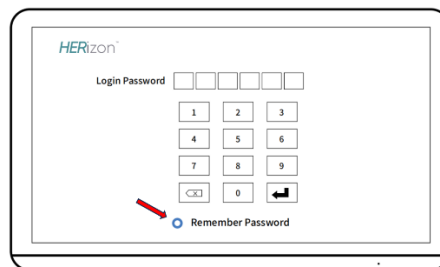

FIGURE 9: PASSWORD SCREEN
2. The default password, 123456, will be prepopulated into the password field (Figure 9) on the password screen. NOTE: To change password, refer to Settings and Features section below.